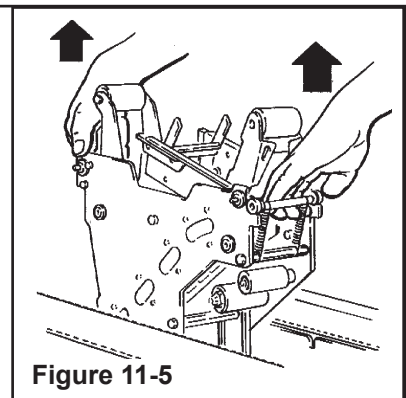

Figure 11-5
5. Lift the lower taping head, shown in Figure 11-5 and 11-4C, straight up to remove it from the case sealer bed.